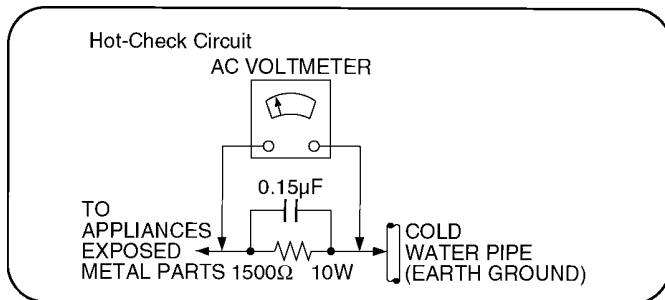

Figure 1
#### 2.1.2. LEAKAGE CURRENT HOT CHECK (See Figure 1 .)
2. Connect a  $1.5k\Omega$ , 10 watts resistor, in parallel with a  $0.15\mu\text{F}$  capacitors, between each exposed metallic part on the set and a good earth ground such as a water pipe, as shown in Figure 1.